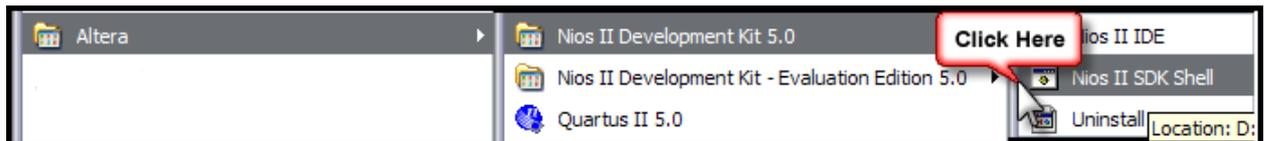

Figure 5: Starting the Nios II SDK Shell.
1. Start the *Nios II SDK Shell* from the Windows Start Menu by following the links from **Altera > Nios II Development Kit > Nios II SDK Shell**. This step is illustrated in Figure 5.